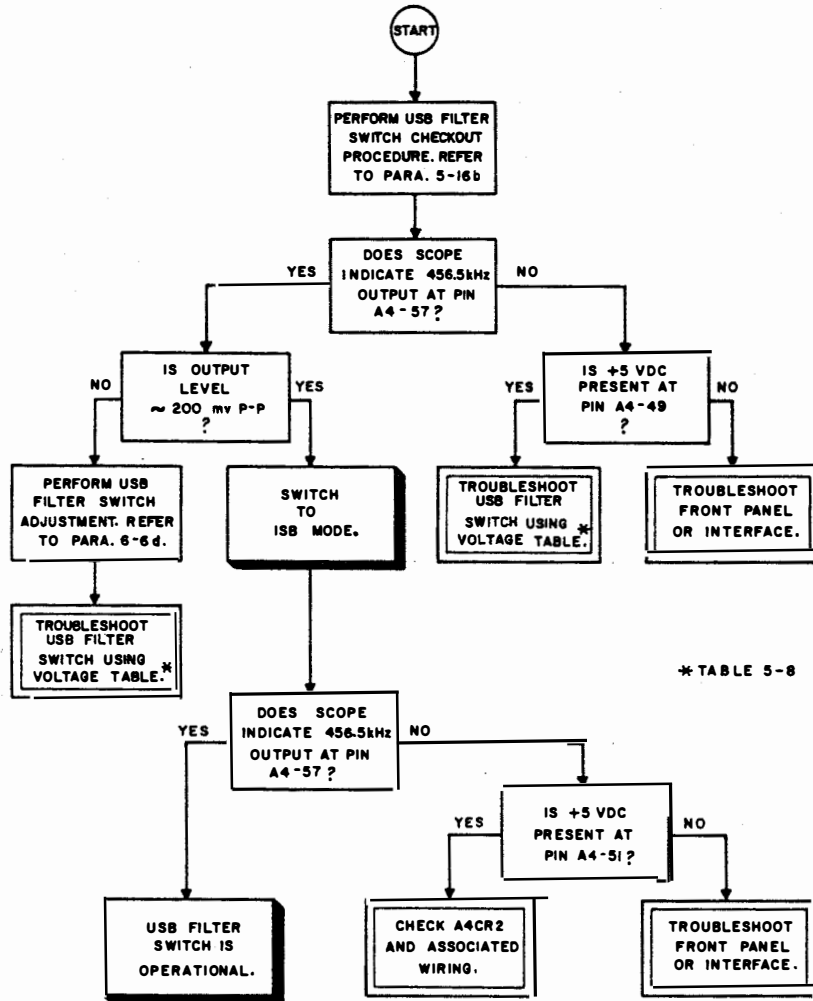

Figure 5-14. USB Filter Switch Fault Logic Diagram
(1) Figure 5-14, USB Filter Switch Fault Logic Diagram.
(2) Table 5-8, USB Filter Switch Voltage Table.